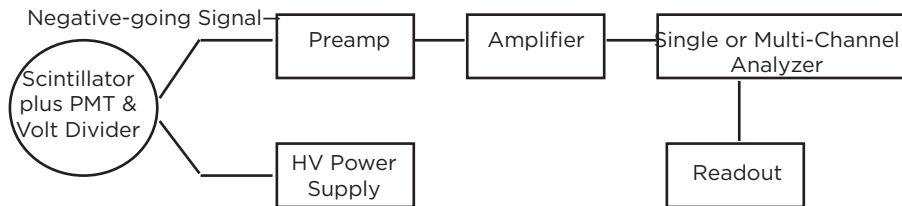
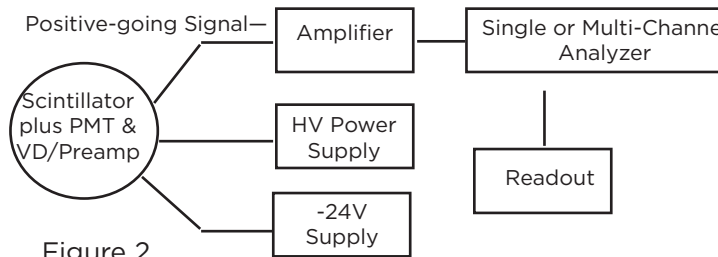
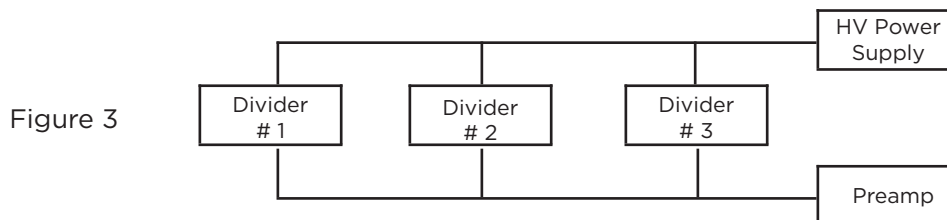

Figure 1
Figure 2
Figure 3
- 2) Using RG-59/U or equivalent coaxial cable, connect the positive high voltage supply (800 to 1300 volts) to the SHV (or MHV) connector as shown in *Figure 1* or *Figure 2*. The connector is marked "HV." The "SHV" can be recognized by its overall length or the "MHV" by the inner Teflon[®] insulation extending higher up than that in the signal connector. See the Quality Assurance (Q.A.) Sheet supplied with your detector for a typical HV value.
coaxial cable again as shown in *Figure 1* or *Figure 2*. (Cable length of less than 10 feet is recommended.)
Note: If you are using a voltage divider/preamplifier, no external preamp is required in your system electronics (*Figure 2*). However, you will need a separate power supply to provide negative (-)24 volts through the 9-pin connector's pin 6 and ground (common) on pin 1.
- 3) Connect the BNC signal connector to the system preamplifier's input, as shown in *Figure 1* on page 3, or directly to the system amplifier's input for the probe packaged with an FET preamp (*Figure 2*).
- 2) Using RG-58/U or RG-59/U coaxial cable, connect the positive high voltage supply (800 to 1300 volts) to the high voltage (HV) connector of each voltage divider or the network. An "SHV" connector can be recognized by the overall length or an "MHV" by the inner Teflon[®] insulation extending higher up than that in the signal connector. T-connectors (or a fan-out box) simplify making parallel connections (*Figure 3*). See the Q.A. sheet supplied with your detector for a typical HV value.
- 3) Connect the preamplifier from the system electronics to the signal connectors (S) using RG-58/U or RG-59/U coaxial cable (and T-connectors or fan-out box, if required) again as shown in *Figure 3*. *Figure 2* shows a block diagram of a complete system.